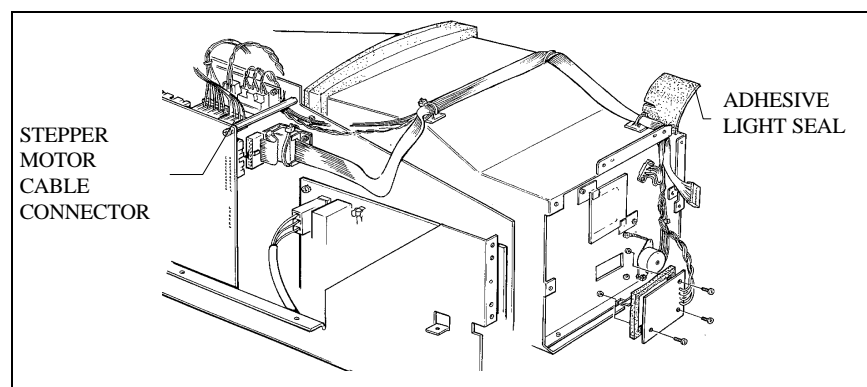

Figure 6-11. Removing the stepper motor cable
3. Carefully peel back the self-adhesive light box seal at the top right corner of the Front Plate Assembly. (Figure 6-11) Fold it back far enough to expose the cables under it.